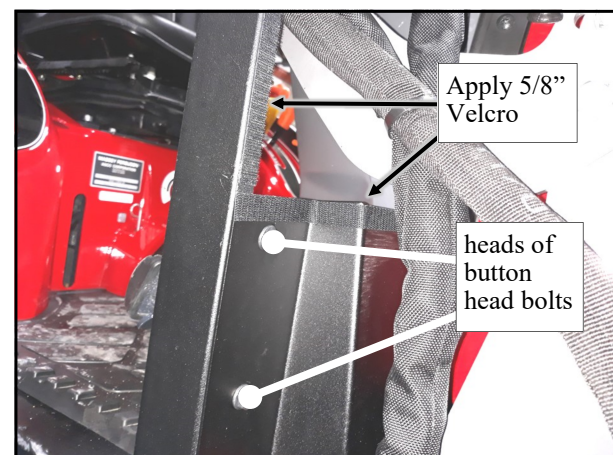

Fig. 5.1 (view from right front side of tractor)
5.1 Per fig. 5.1, install the right front leg oriented so the large cut out fits around the hydraulic hoses. Attach with the following hardware: two 5/16" x 1" long button head bolts, two plastic washers, and four steel washers and two locknuts. Do not tighten the bolts.
5.2 Per fig 5.1, apply 1" hook Velcro to the top of the front right leg, and 5/8" hook Velcro to the front face of the side frame tube, between the front leg panel and cowl.